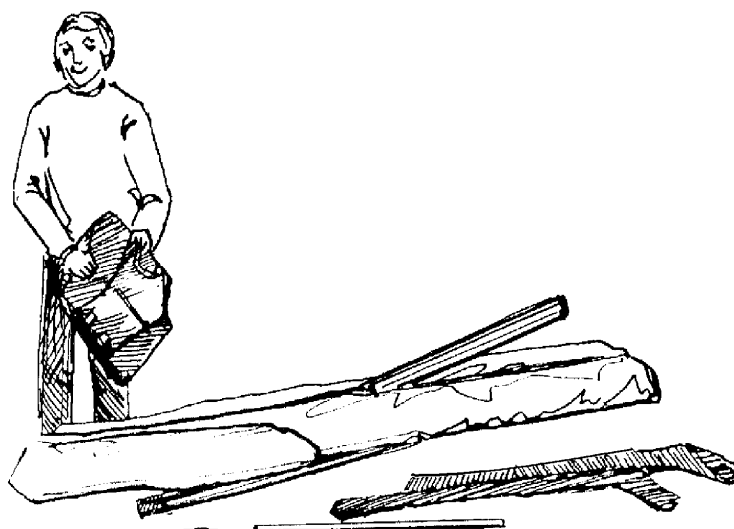

Fig.1
2.1.2. Undo the zipper. Untie the velcro straps. Remove the battens in the bags, the framebar, the leading edge tubes N3 and the nose cone from the bag. (Fig.1)